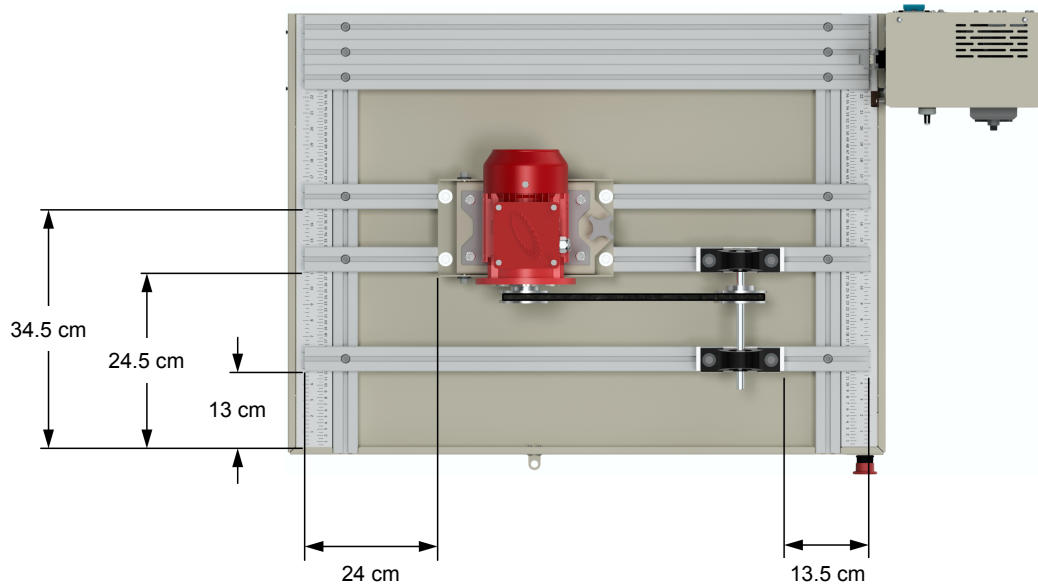

Figure 13. Workstation setup for Job Sheet 2.
2. Fix three extrusion bars to the positions shown in Figure 13.
3. Install the motor mounting base on the extrusion bars using the M8-1.25 X 16 mm screws, flat washers, and T-nuts as shown in Figure 13. Then tighten the screws with a 6 mm hexagonal T-handle key, following a crisscross pattern.
9. Install two pillow block bearings and risers on the extrusions using the M8-1.25 x 75 mm screws, flat washers, and T-nuts as shown in Figure 13. Make sure the setscrews on both pillow block bearings are pointing outwards. Do not tighten the screws yet.